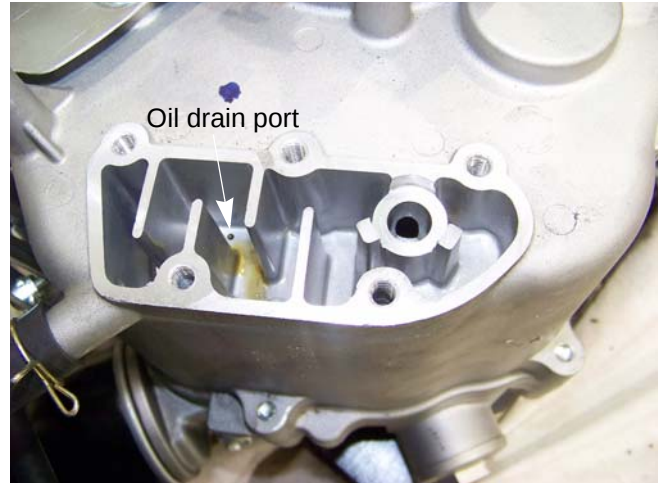

Figure 5.10
6. Inspect the oil drain-back port. Make sure it will allow oil to drain back into the engine. See Figure 5.10.